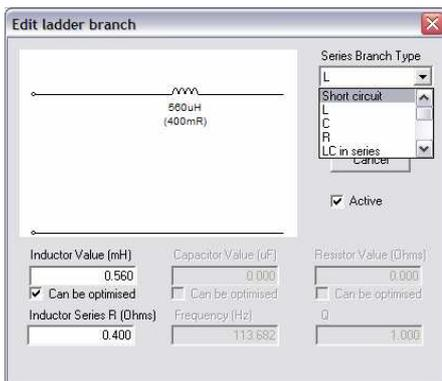

Figure 24. Right-click menu
We have further simplified the X-over as follows. The second inductance in section 1 (woofer) is just 0.56 mH and may be omitted. By right-clicking on the component we get a menu where we can de-activate the inductor, Fig. 24.
Up to this point we have assumed the inductors being ideal i.e. without resistance (RL). Now we want to include a resistance of 0.4 ohms in all inductors. Right-click the inductor for section 1 (2.0mH) and get the component branch edit for the inductor (L) Fig. 24. The Inductor Series RL is entered as 0.4 ohms. The upper right “series Branch Type” also displays some of the possibilities to insert up to 3 other components in various ways. This includes “Short circuit” and “Open circuit” which can be used to remove components.